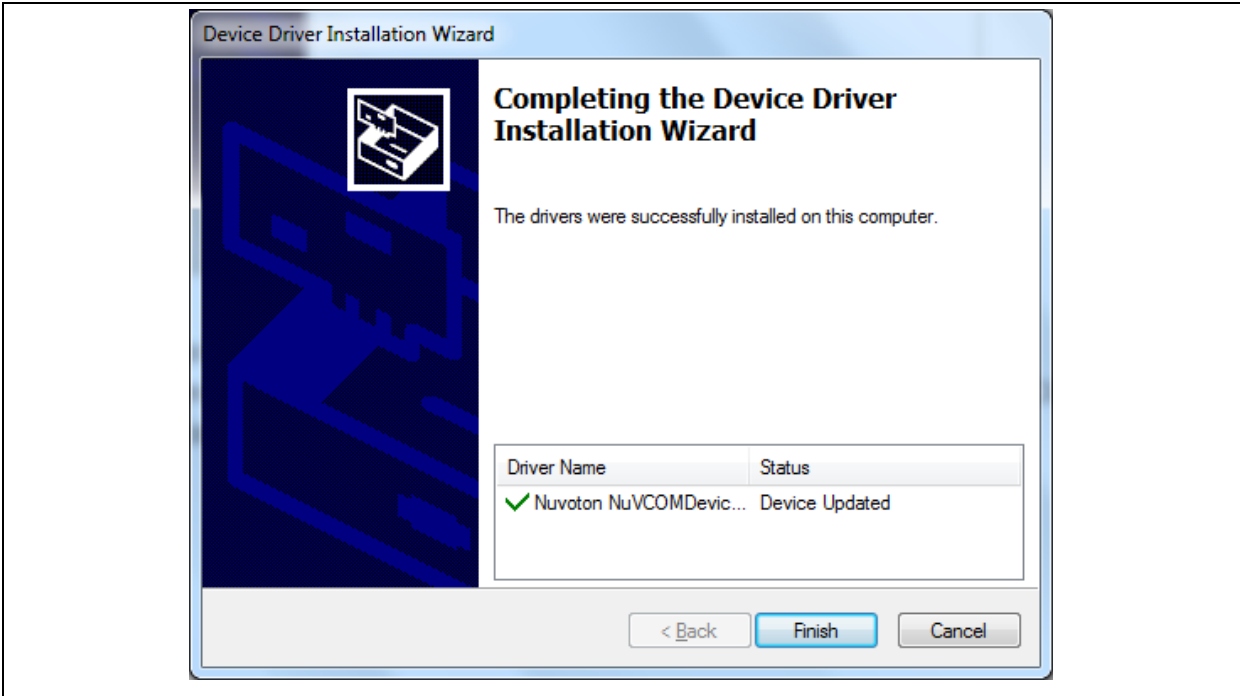

Figure 2-6 WinUSB4NuVCOM Driver Setup (6)
Step 6: Press “Finish” to complete the installation of the USB VCOM driver (Figure 2-6).